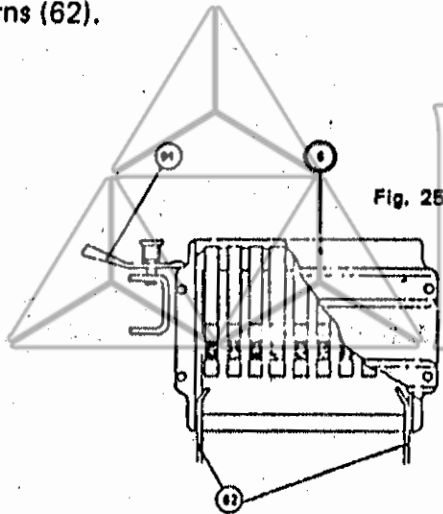

Fig. 25
- A. Arc Chute (Fig. 25). To remove arc chute, raise retaining lever (61), rotate lever 90 degrees to clear path, and remove arc chute by lifting upwards. The reverse procedure is followed for repositioning arc chutes, making sure the respective arc chutes fit over arcing horns (62).